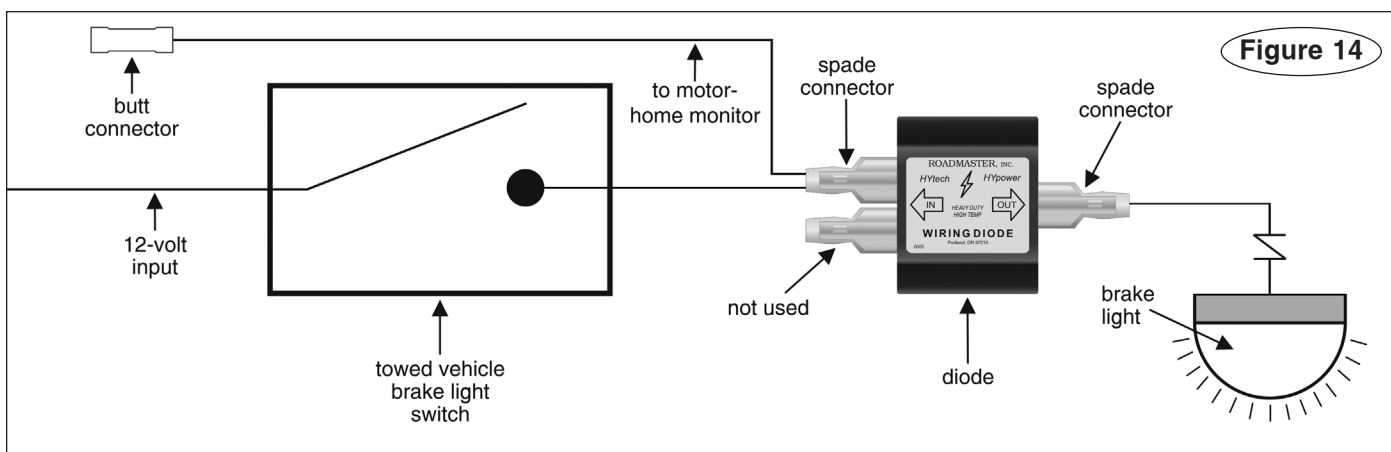

Figure 14
3. Install the diode in line, as shown in Figure 14.
1. After you have installed a diode downstream from the brake light switch (Figure 14), wire the vehicle’s turn signals, taillights and brake lights for towing by installing six diodes.